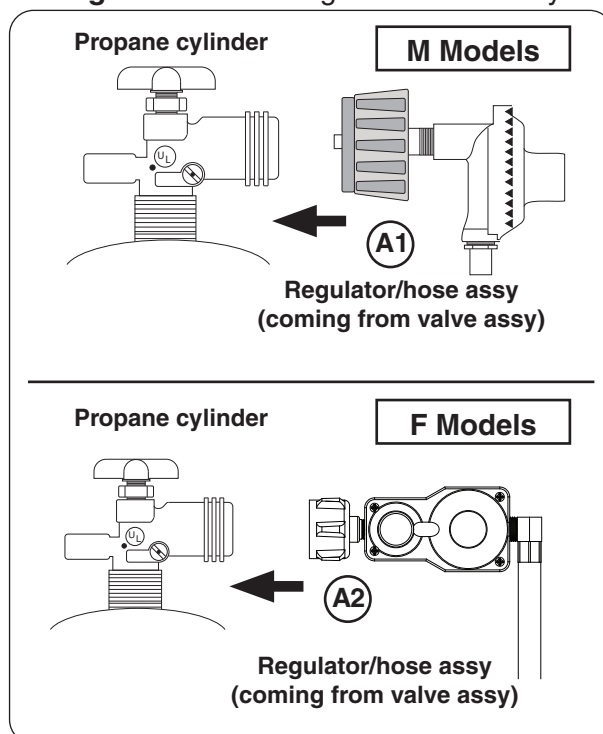

Fig. 26-2 Connecting hose assy to L.P. cylinder
2. Attach the regulator end of the hose assembly to a propane cylinder (not included) and tighten (see Fig. 26-2, A1 or A2).